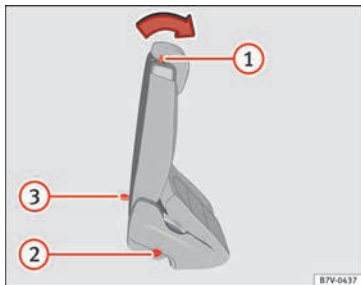

Fig. 159 Second row of seats: convenient entry function controls
- Remove any objects located in the footwell of the second row of seats, where applicable » ❶.
- Push the lever » Fig. 159 ❶ forwards and fold the backrest of the rear seat. This seat folds forward completely » Δ and can still be moved further forward.
- Make sure that the rear seat is securely engaged so that the seat belts can provide proper protection in the rear seats. The red mark » Fig. 159 ❷ should no longer be visible » Δ in **Folding down rear seats to create load space on page 156.**
If the lever » Fig. 159 ❶ does not work, e.g. after an accident, the seats on the second row can be folded forwards from the third row to allow vehicle occupants of the third row of seats to get out of the vehicle » Δ.
- Pull the handle » Fig. 159 ❸ back and fold the backrest of the rear seat. The complete rear seat folds forward » Δ.
- A red mark on the side of the seat »» Fig. 159 ② indicates that the seat backrest is not engaged. The mark is no longer visible when it is correctly engaged.